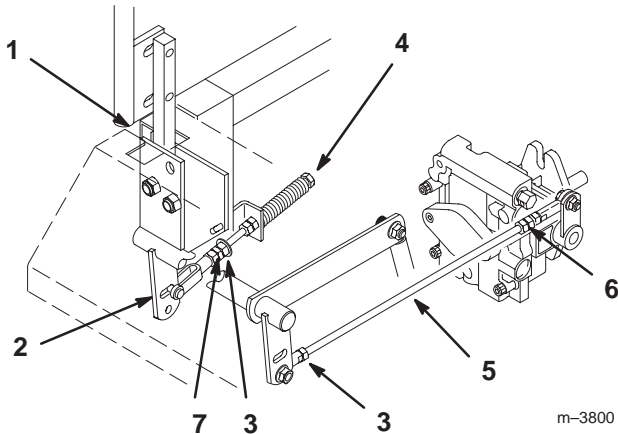

Figure 46
2. Begin with either the left or right motion control lever. Move the lever to the neutral (but not locked) position and pull the lever back until the clevis pin (on the arm below the pivot shaft) contacts the end of the slot (just beginning to put pressure on the spring) (Fig. 46).
3. Check where the lever is relative to the notch in the console. It should be centered allowing the lever to pivot outward to the neutral lock position (Fig. 46).
4. Loosen the locknut at the ball joint on the pump control rod (Fig. 46).
6. Adjust the pump rod length by rotating the double nuts on the rod, in the appropriate direction, until the wheel is still or slightly creeps in reverse (Fig. 46).